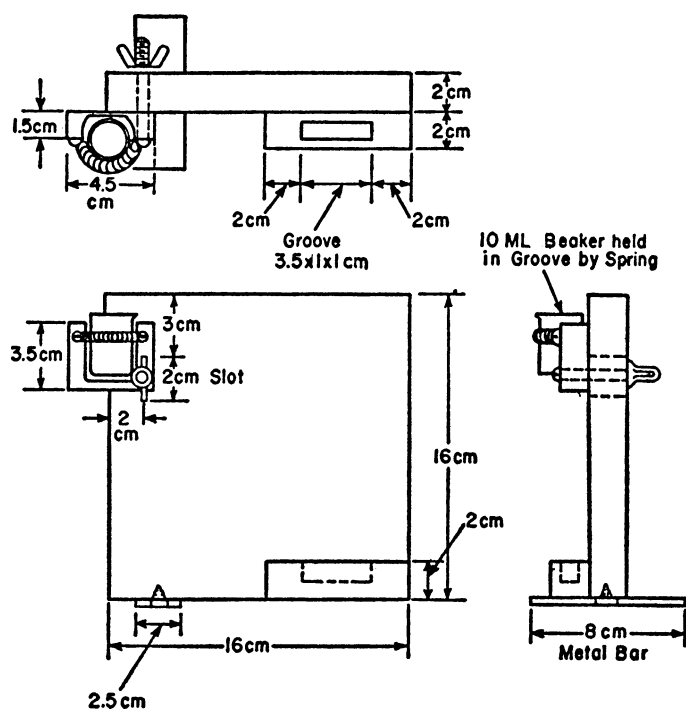

FIG. 2 Rack for Filling Pycnometer
6.2 *Rack*—A rack to use in filling the pycnometer (see Fig. 2).